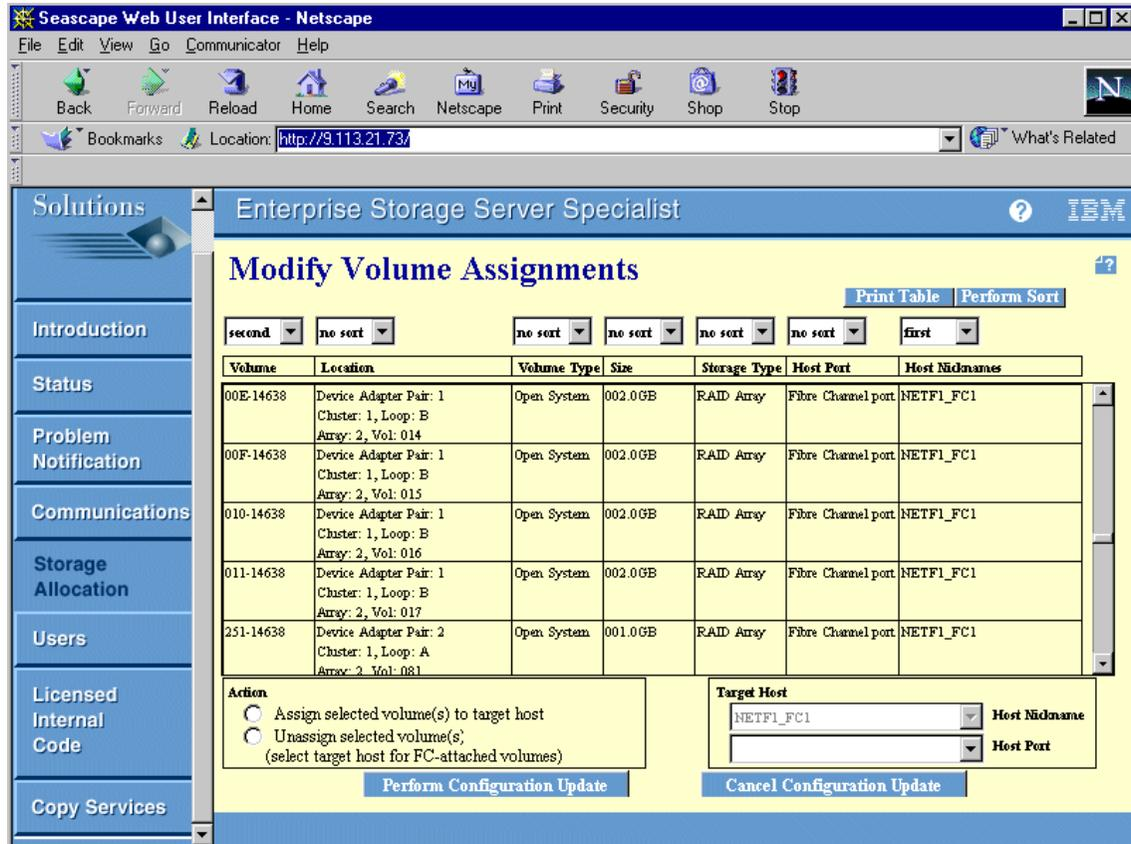

Figure 41. Volumes assigned to Fibre Channel host
3. Assign the volumes to the Fibre Channel host. See Figure 41.